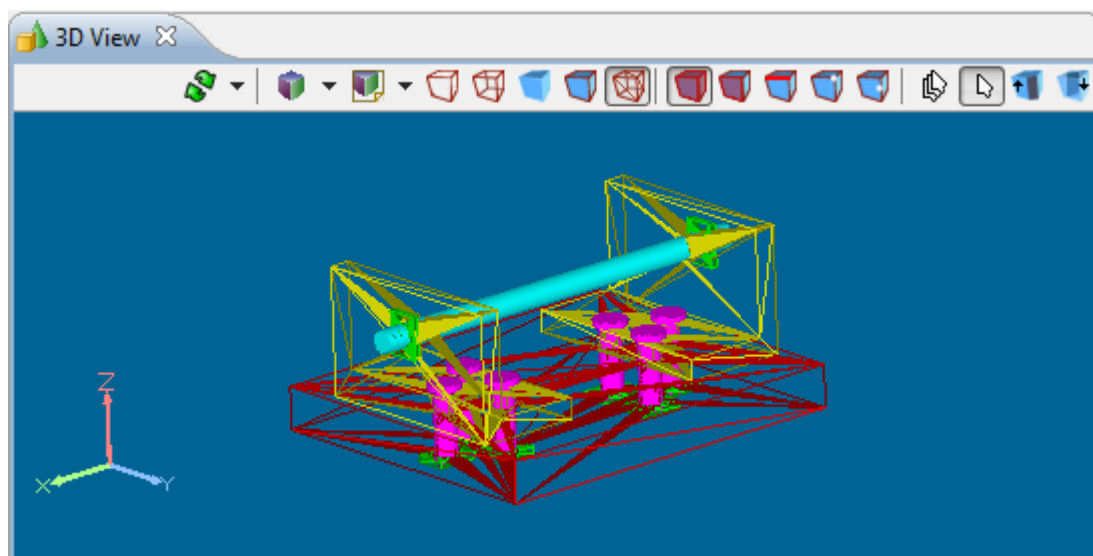

Figure 6. 3D object where surfaces shown as triangles
- Click  button to view a 3D object, where surfaces are displayed as wire frame triangles (see Figure 6).